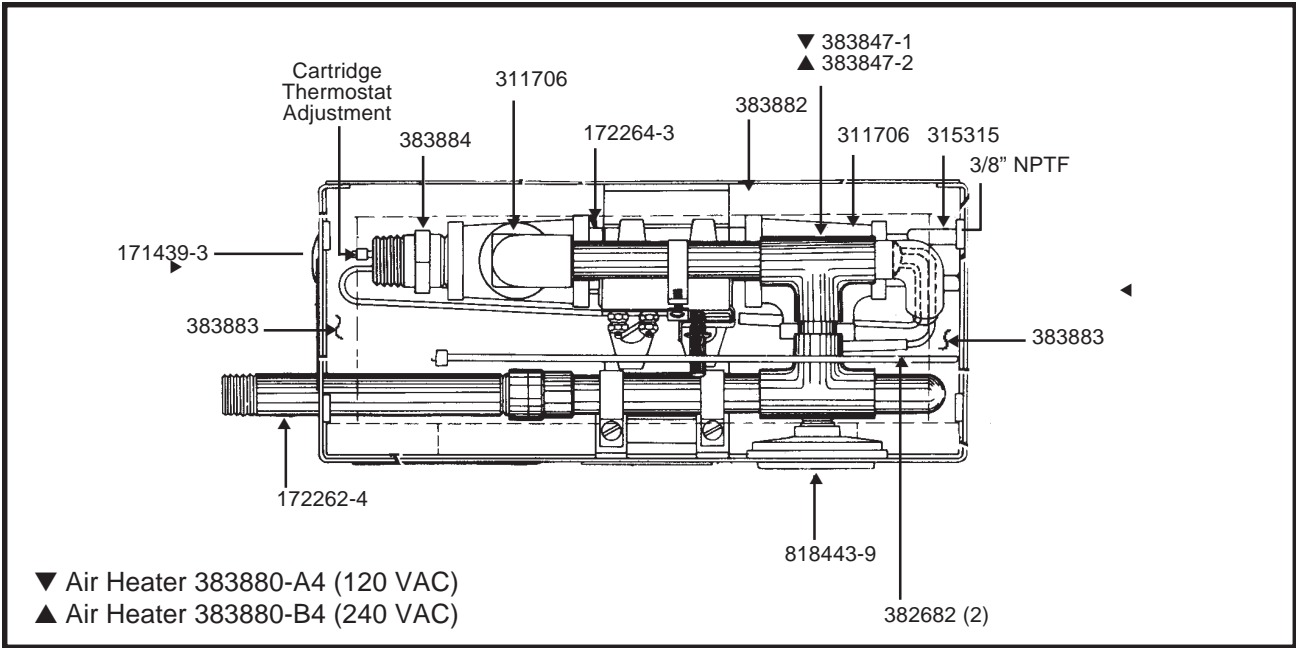

Figure 4a: Top View of 383880 Air Heater
A. Adjusting Cartridge Thermostat: (Figures 4a & 4b)
Cartridge Thermostat 383884 controls the heater and is pre-set at the factory to cut out at approximately 155° F. The Thermostat may be adjusted by the customer to suit his application (See Figure 4a).
B. Adjusting Surface Thermostat (Figures 4a & 4b)